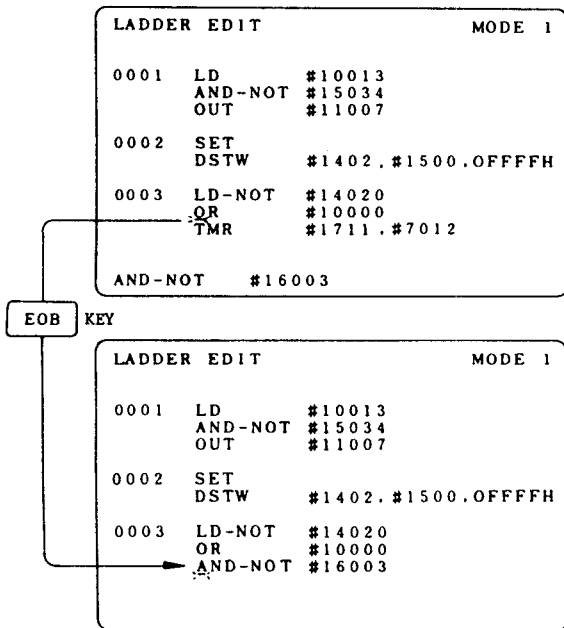

Fig. 9.16
2. Consequently, in the edit operation of par. 9.7.1 (4), the **EOB** key can be used to erase all commands following a specific command (see Fig. 9.16).